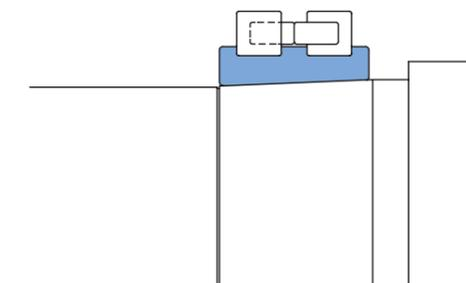

Figure 9.8 Inner Sub-unit Temporary Tightening
- Lightly place the inner sub-unit onto the shaft taper [Figure 9.8].